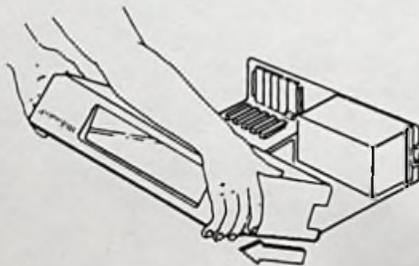

Figure 8. Removing The Cover
2. Remove the retaining screws that hold the cover on your system and set them aside. Slide the cover forward. When it stops sliding, tilt the cover up and lift it away. Refer to Figure 8.